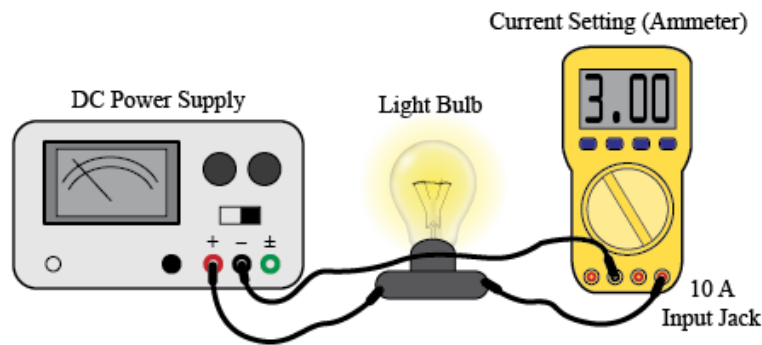

Figure 5
- 8 Hook up the circuit as shown in the schematic in Figure 5. Convince yourself that the detailed circuit corresponds to the less-detailed schematic. Set the multimeter to the DC current scale with the highest reading. This will be the 20 A range. Don't forget to connect the leads to the appropriate sockets.